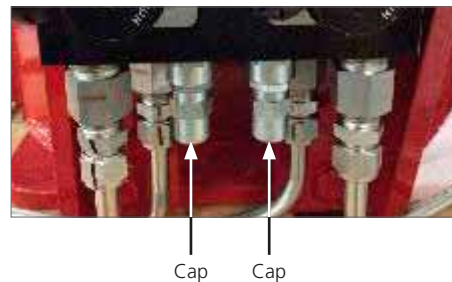

Fig 11.4 Flow regulator cap removal
- Remove the flow regulator caps by manually unscrewing them (see Fig 11.4)